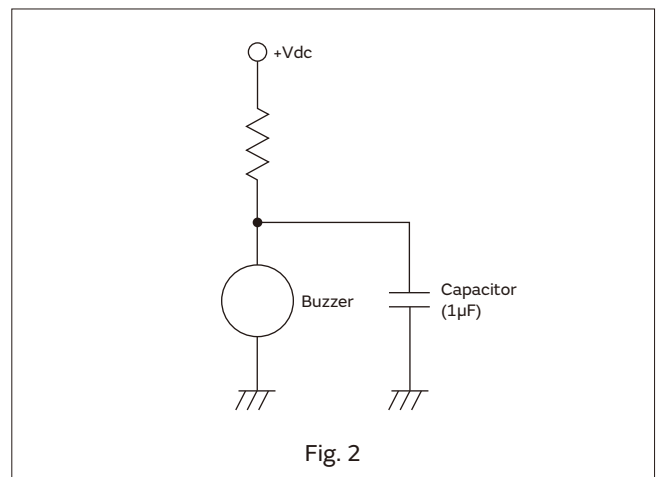

Fig. 2
4. Please don't put a resistor between the oscillation circuit and power supply to control the sound volume of the piezoelectric sounder or the piezoelectric buzzer. Doing so could cause an unstable sounding state like an abnormal oscillation or the oscillation stopping because of the change in oscillation conditions. Please insert a capacitor (about 1 $\mu$ F) in parallel with the piezoelectric buzzer, if you need to control the sound volume. (Please see Fig. 2)